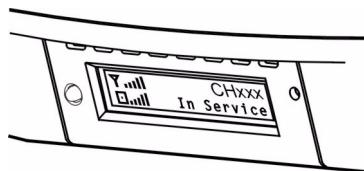

Figure 4.5: Displayed Signal Strength and Coverage Area
3. Hold the CU in the position it is to be mounted. In an ideal application, the display on the CU will show 5 bars of signal strength and coverage area. If the display is not showing 5 bars for coverage area and there are alternate possible mounting locations, move the CU to the alternate locations and check the display. Place the CU in the location showing maximum number of bars (see Figure 4.5: "Displayed Signal Strength and Coverage Area"). In the event the number of bars is not changing, which is very possible, choose a location that is most convenient.